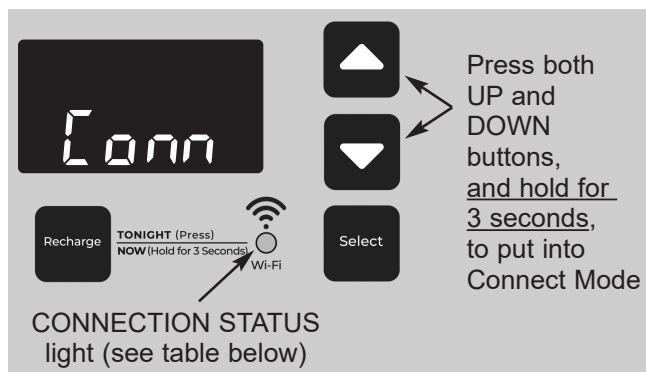

FIG. 31
3. On the water softener's front panel (see Fig. 31), press both the  $\triangle$  UP and  $\nabla$  DOWN buttons, and hold them for 3 seconds.
4. Release the buttons when “Conn” appears in the display (See Fig. 31) and the connection status light begins flashing amber.